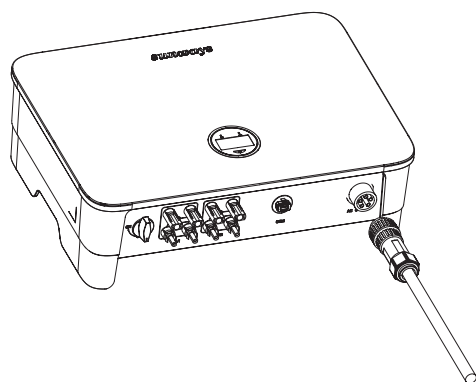

Figure 4-24 Connect the AC connector
2. Connect the AC connector to the inverter AC terminal, and rotate the AC connector buckle clockwise until its tight enough. As shown in figure 4-24: